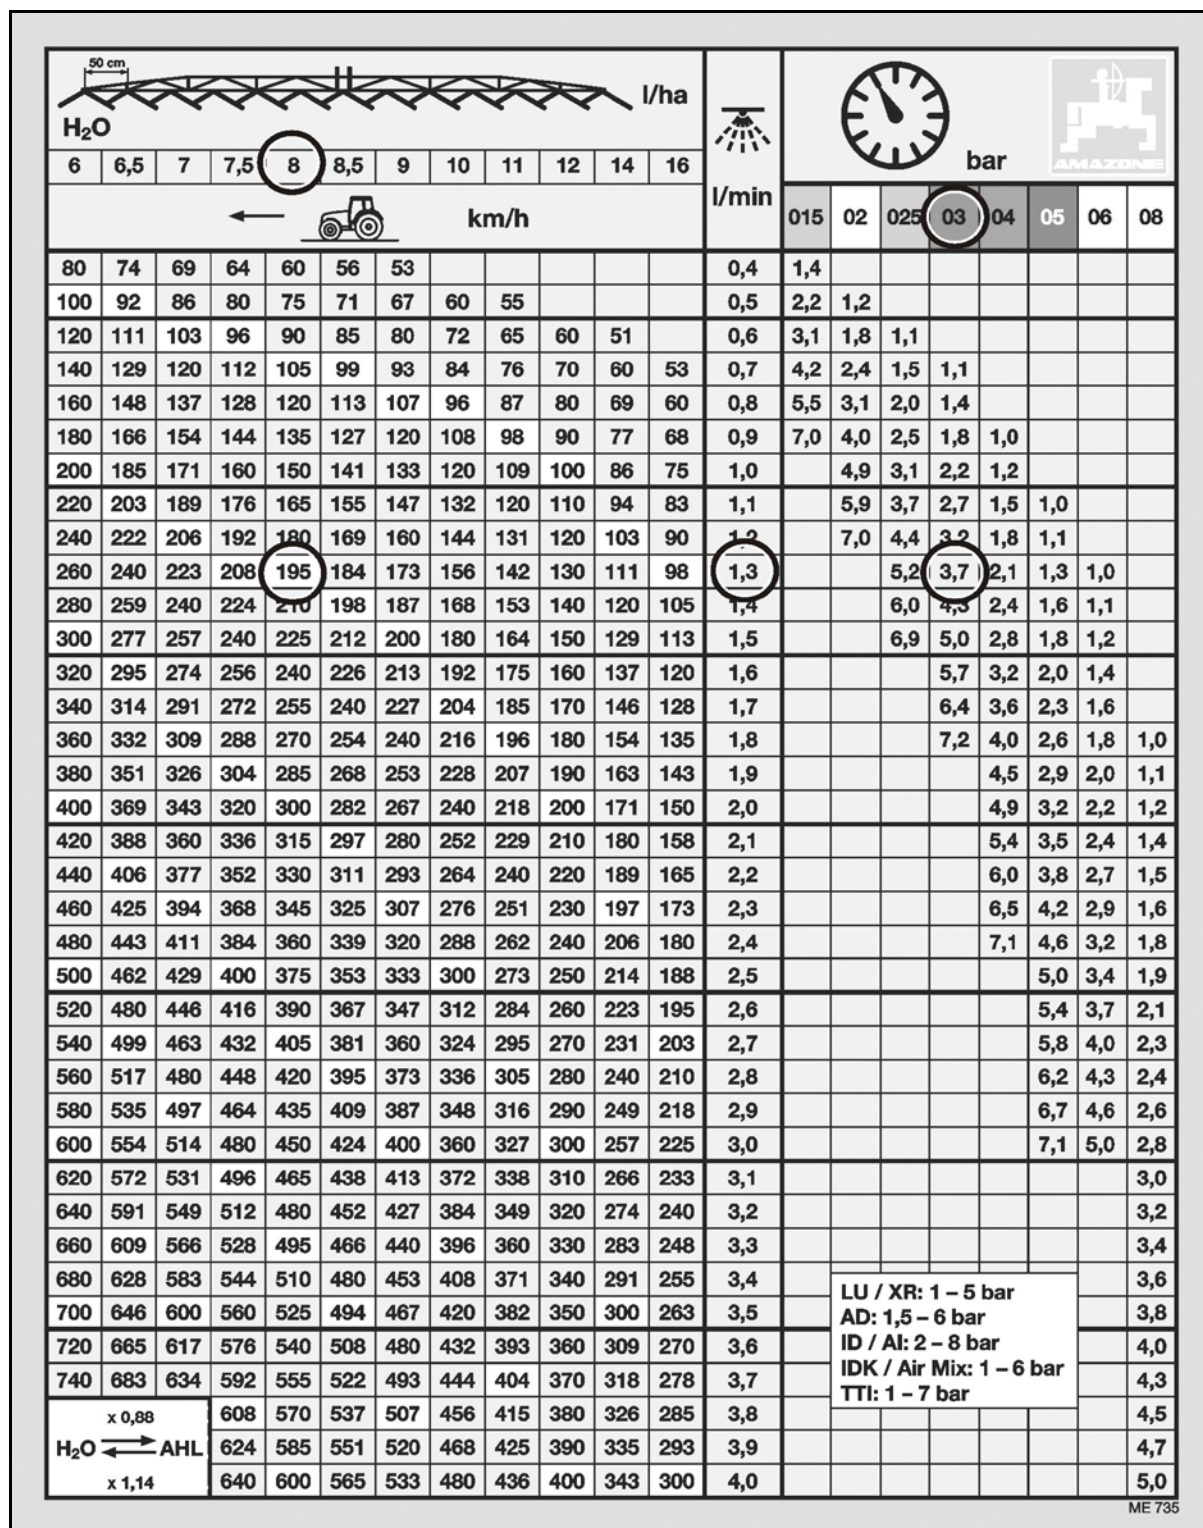

Fig. 192
- Fig. 192 is used to
4. Go to the spray table (Fig. 192).